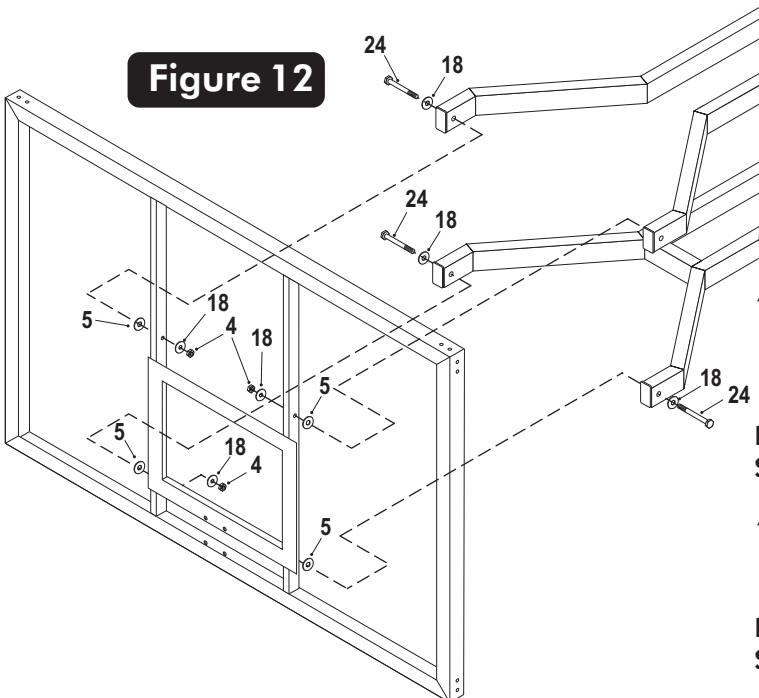

Figure 12
18. With at least three capable people, raise the backboard assembly up and have the fourth attach Lower Board Arms to lower mounting tubes on backboard using two bolts (#24), two plastic washers (#5), four washers (#18) and two lock nuts (#4). See Figure 12.
19. Attach Upper Board Arms to upper mounting tubes on backboard using two bolts (#24), two plastic washers (#5), four washers (#18) and two lock nuts (#4). See Figure 12.